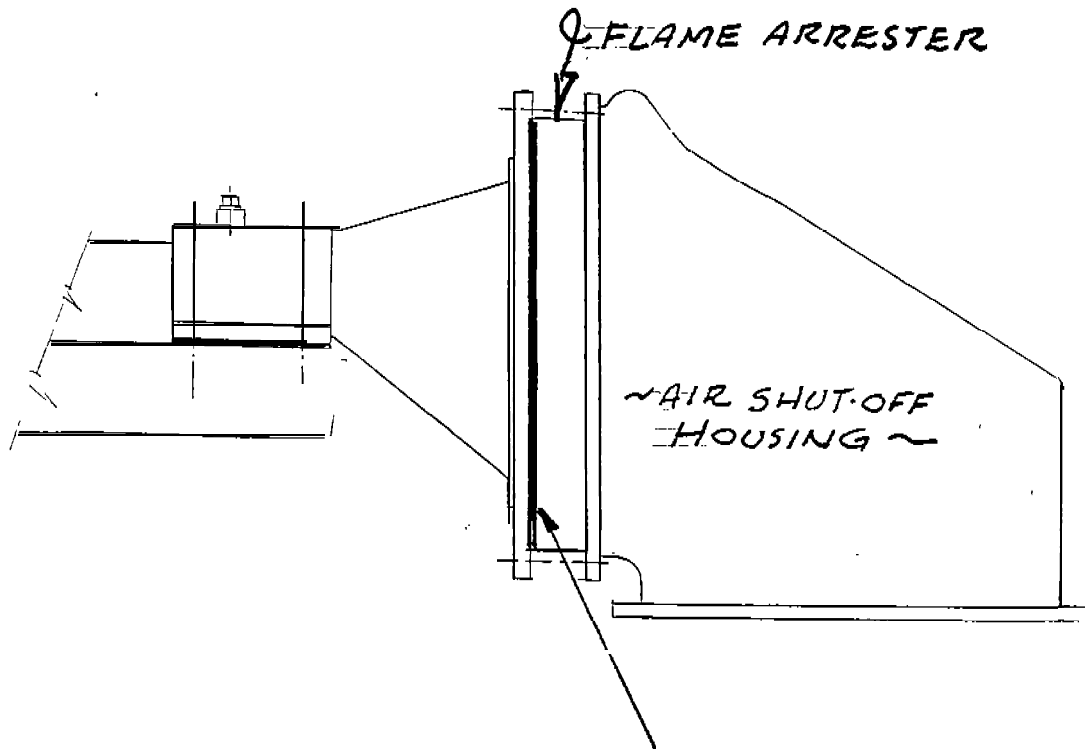

Figure 6. Flame Arrester Gasket
- (WEEKLY) 10. () A copper gasket is installed between the intake flame arrester and the air intake adapter as shown in Figure 6.